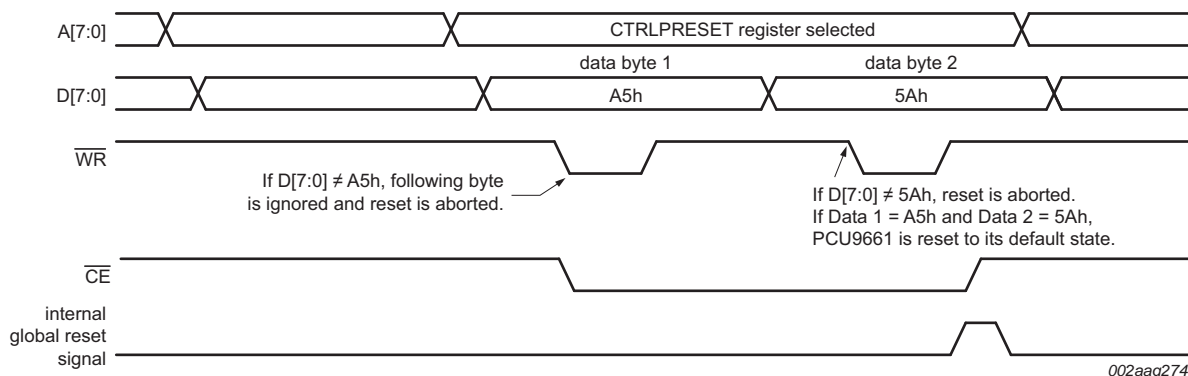

Fig 11. Parallel Software Reset sequence
- By using the Parallel Software Reset sequence as described in Figure 11. The host must write to the CTRLPRESET register of the target channel in two successive parallel bus writes to the bus controller. The first byte is A5h and the second byte is 5Ah.